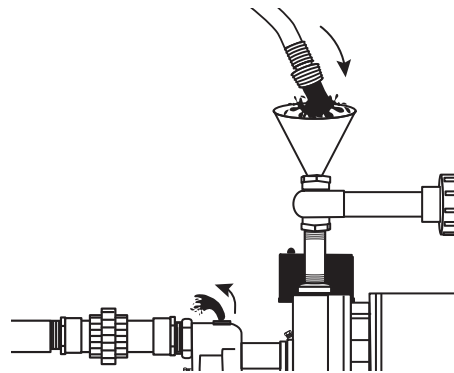

Figure 14 - Add water to pump cavity
2. Slowly fill pump cavity until water comes out of air relief hole on top of the ejector body. (Fig. 14)